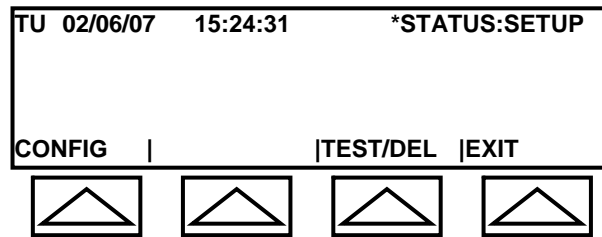

Fig. 4-8a: Sensor Submenu
The screen will appear as in Figure 4-8a.
- ◆ EXIT – returns to the Sensor Submenu (see Figure 4-8a).
The Sensor Submenu (see Figure 4-8a) is displayed.